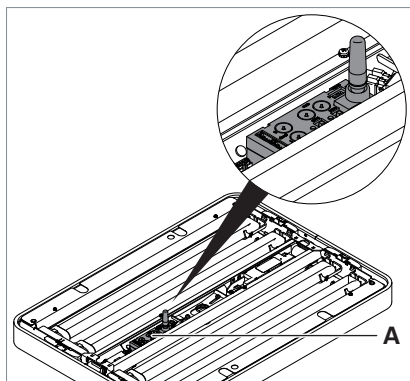

Fig. 1: Wireless module in an ATARO luminaire head.
- ▶ Insert the wireless module **A** into the unused area in the central support of the luminaire head, see Fig. 1.